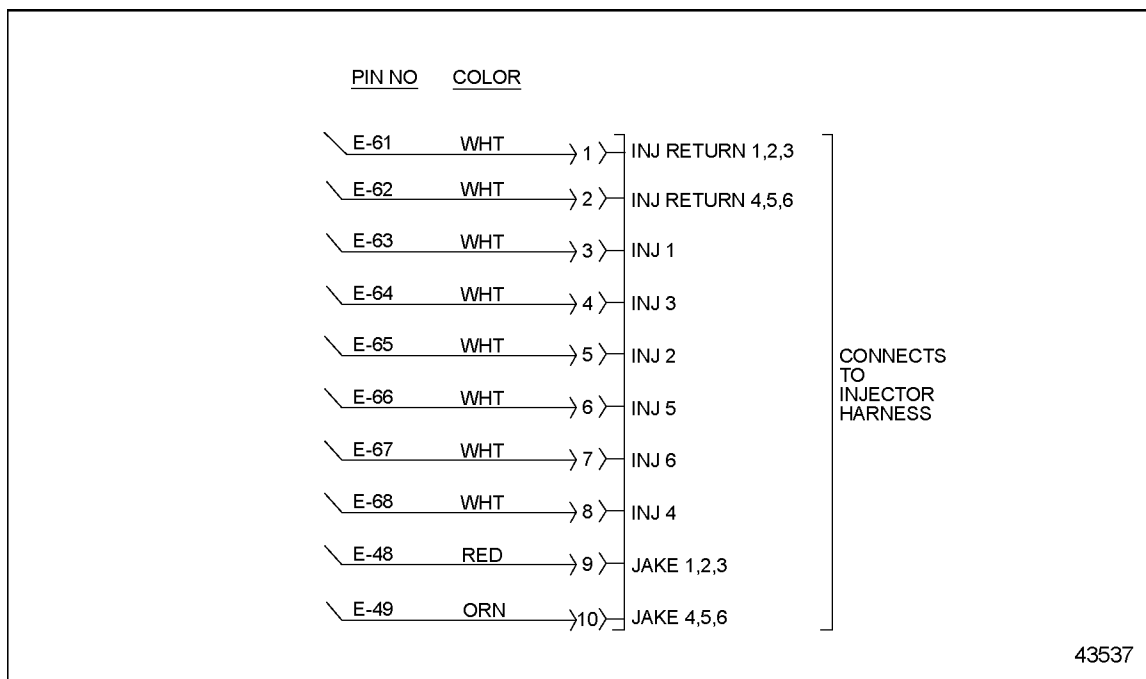

Figure 34-1 Engine Brake Harness Schematic
1. Reconnect the Engine Harness connector. See Figure 34-1.